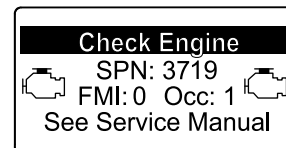

Figure 39
- If a recovery regeneration is needed, the InfoCenter displays engine warning SPN 3719, FMI 16 (Figure 39) and the engine computer derates engine power to 85%.